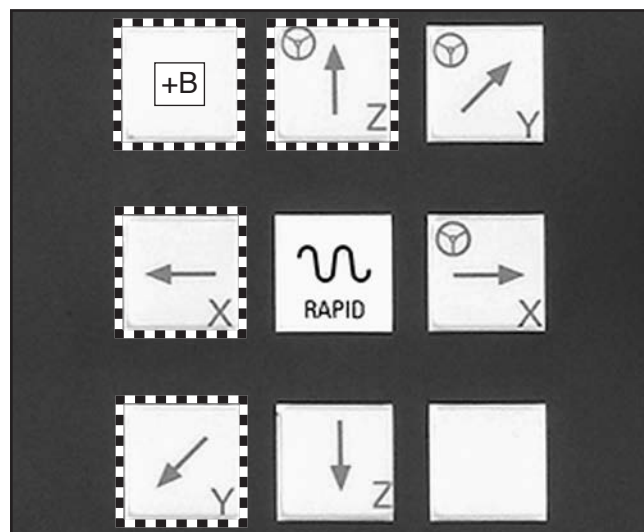

Figure 114. MCP direction-traversing keys.
2. Press and release left X-axis and down-left Y-axis negative-direction traversing keys, then press and release upper Z-axis and B-axis positive-direction traversing keys (see **Figure 114**).